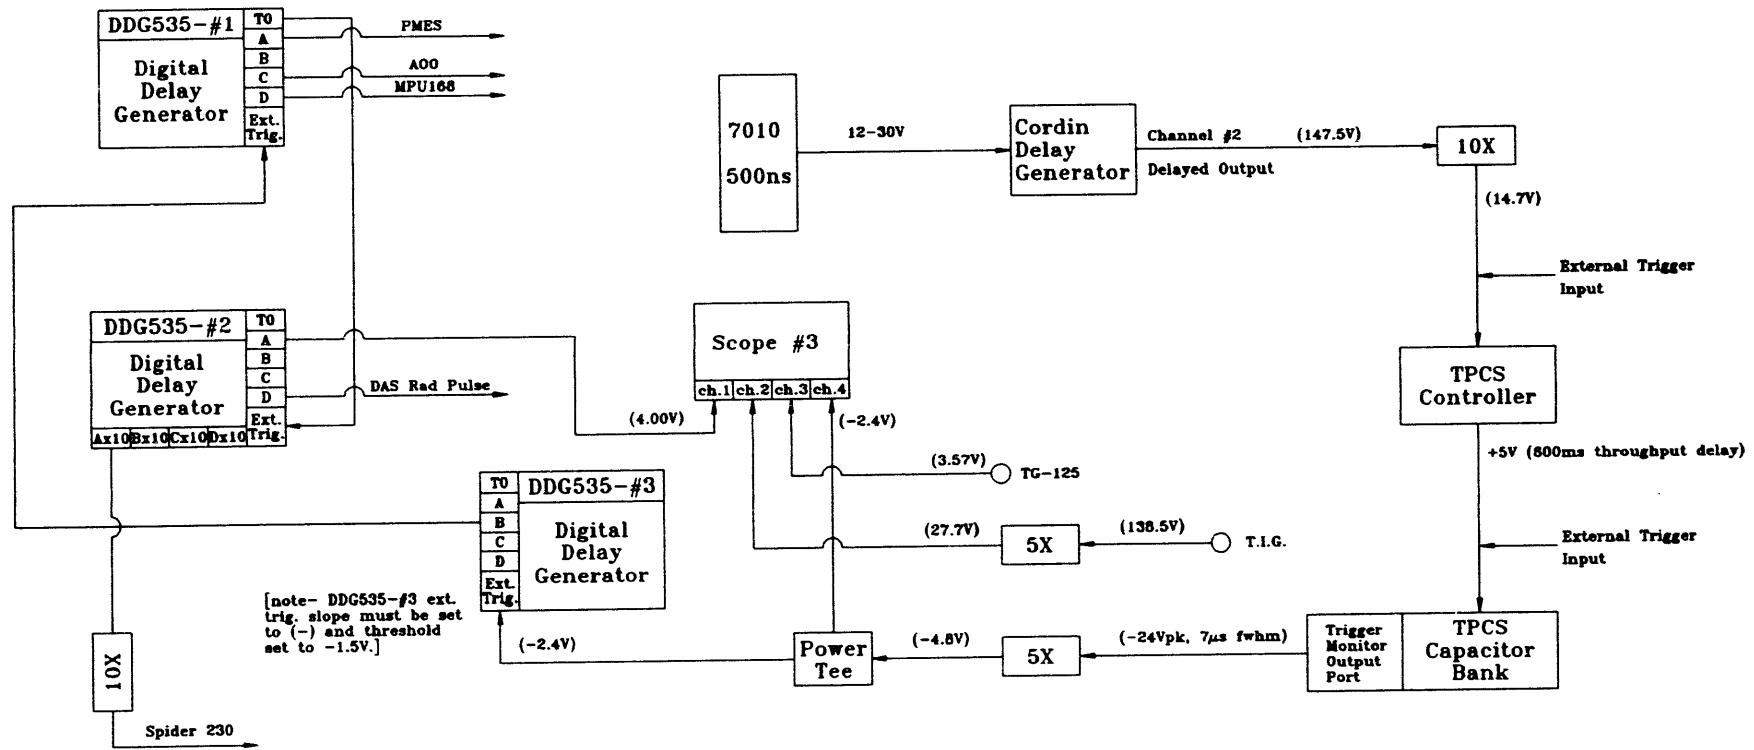

Figure 13: TPCS Triggering Scheme
1. Refer to figure 13 for the proper timing configuration.
1. Refer to figures 13 for the proper timing configuration. (*note- This is the only step in the procedure in which there is a difference between the two setup configurations.*)